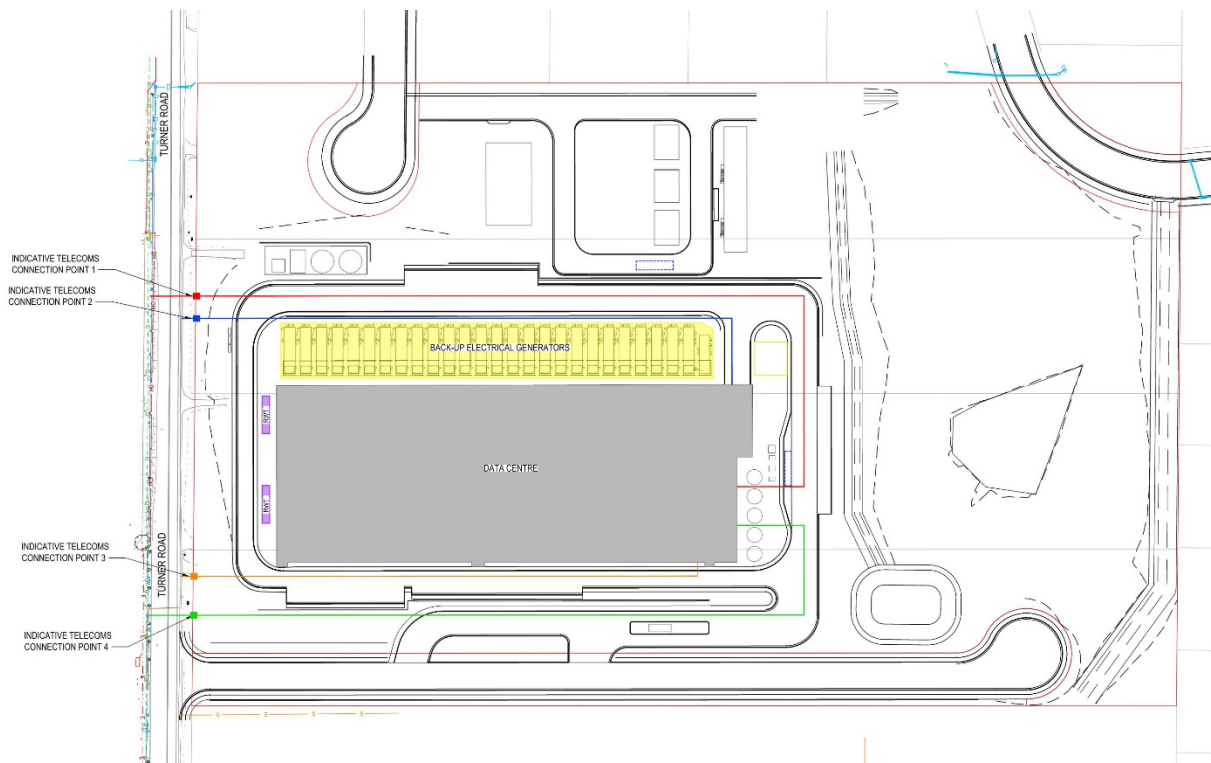

Figure 11: Proposed Telecom Connection Strategy
Four (4) entry points are proposed for the site, each separated by a minimum of 8m to ensure path diversity, as shown in Figure 11.